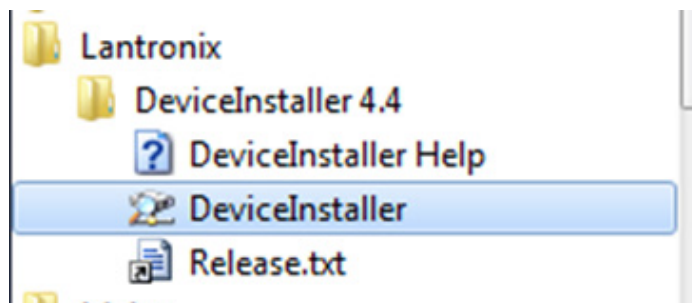

Figure 30 Launch DeviceInstaller from the Start Menu
2. Once installed, launch **DeviceInstaller** (Figure 30) from the **Start** menu.